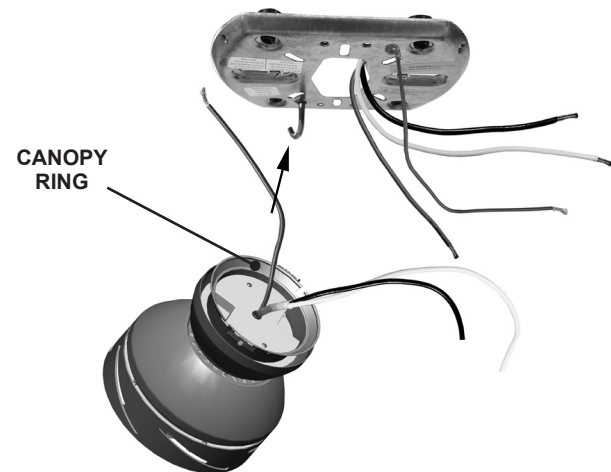

Figure 2
Step 2c. Remove the shipping plate from the top of the canopy. Figure 2.